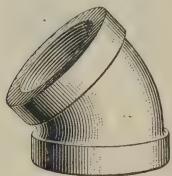

FIG. 8
**21.** **Eighth, or 45°, elbows** are intended to change the direction in which the pipe runs 45°. Eighth elbows are at present only made with right-hand threads, and are not made in reducing sizes. They should be used in preference to 90° elbows when possible. A 45° elbow is shown in Fig. 8.